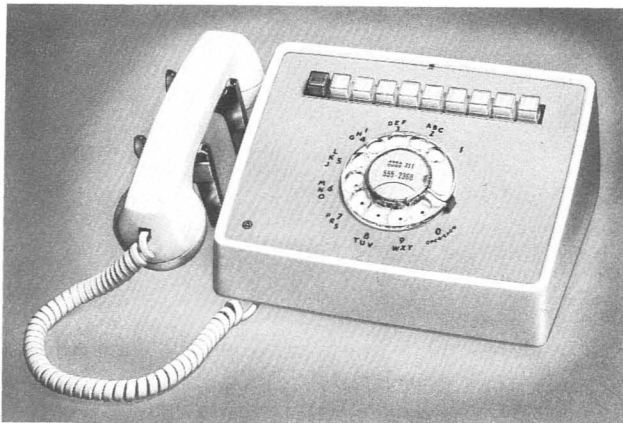

Fig. 1—830CM Telephone Set
**2.01** The 830- (Rotary dial) and 2830- (TOUCH-TONE dial) type telephone sets are obtainable as modular or complete desk-type, 10- or 11-button, key telephone sets (Fig. 1, 2, or 3) equipped to provide standard key system features.